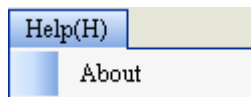

Fig.5-6
5.2.5 Help (main menu), as shown in Fig.5-6: